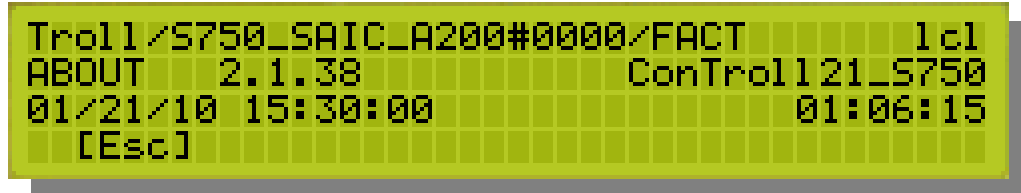

Figure 3–24. Software Information Screen
2. Press [About] to display information about the current software installed in the S750. The display on the S750 should appear similar to the one shown in Figure 3–24.